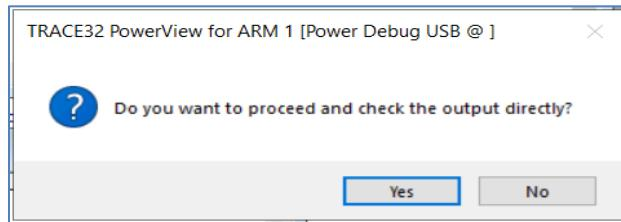

Figure 51. User prompted for checking the output or not
- If the user clicks Yes, then user is informed of the output directly as shown in Figure 51. If the user clicks No, then user can debug the demo code, and check the output themselves as shown in Figure 52.